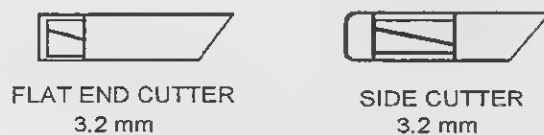

Figure 2-9. Cutters and bur.
c. Cutters furnished with the unit are illustrated in figure 2-9.